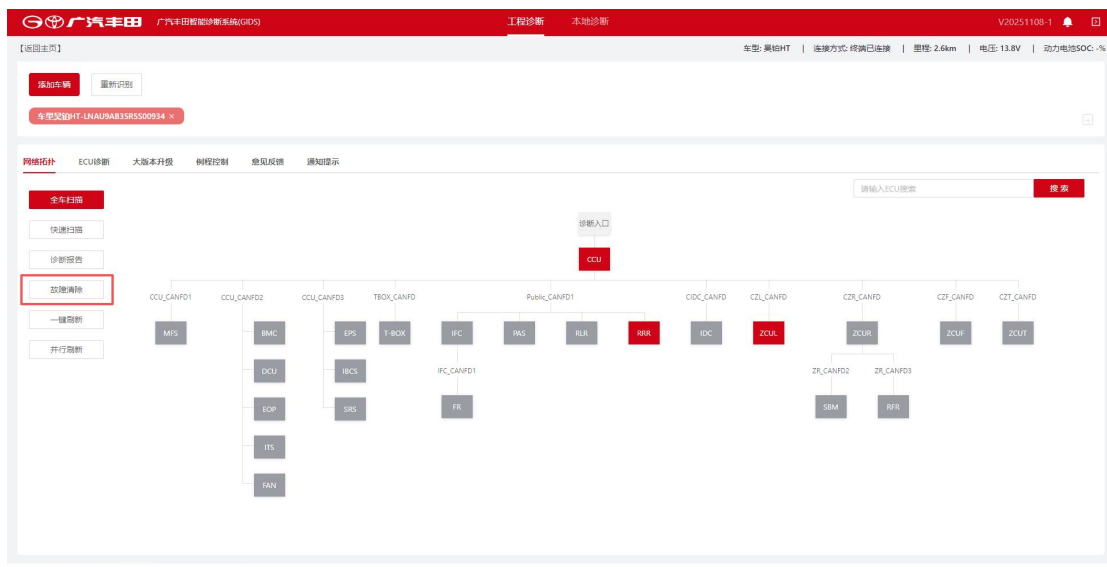

Figure 4-12 Fault Clearance Button
1. After the user clicks "Fault Clearance", as shown in Figure 4-12 Fault Clearance Button, the system clears the controllers one by one and reads